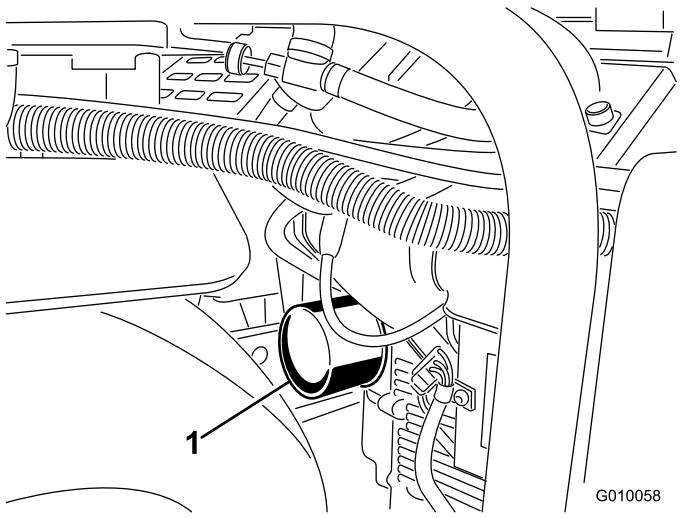
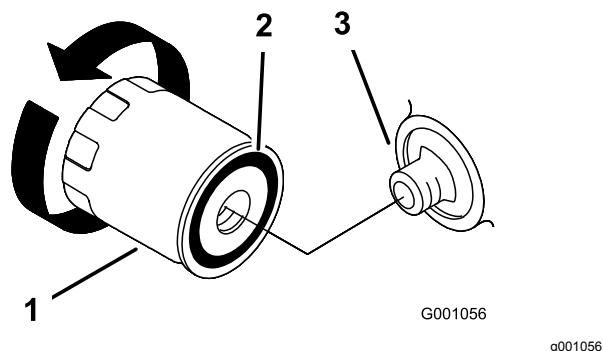

Figure 46
Figure 47
- Place a shallow pan or rag under the filter to catch oil (Figure 46).
- Remove the old filter (Figure 46 and Figure 47) and wipe the surface of the filter adapter gasket.